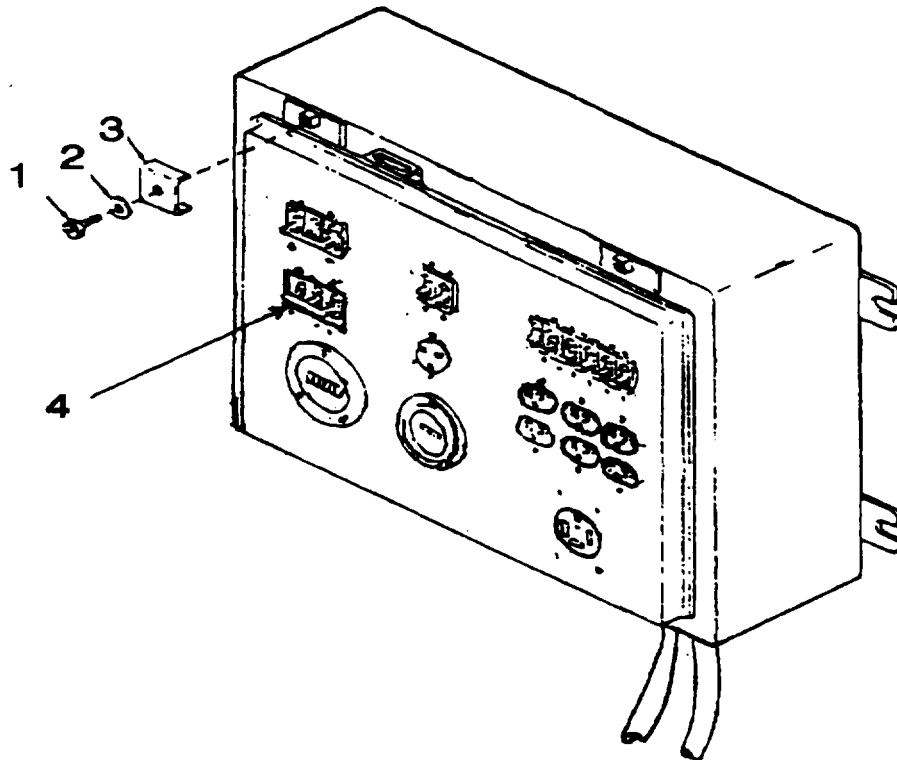

Figure 4-14. Control Panel Assembly.
- a. **Removal.** (Refer to figure 4-14.)